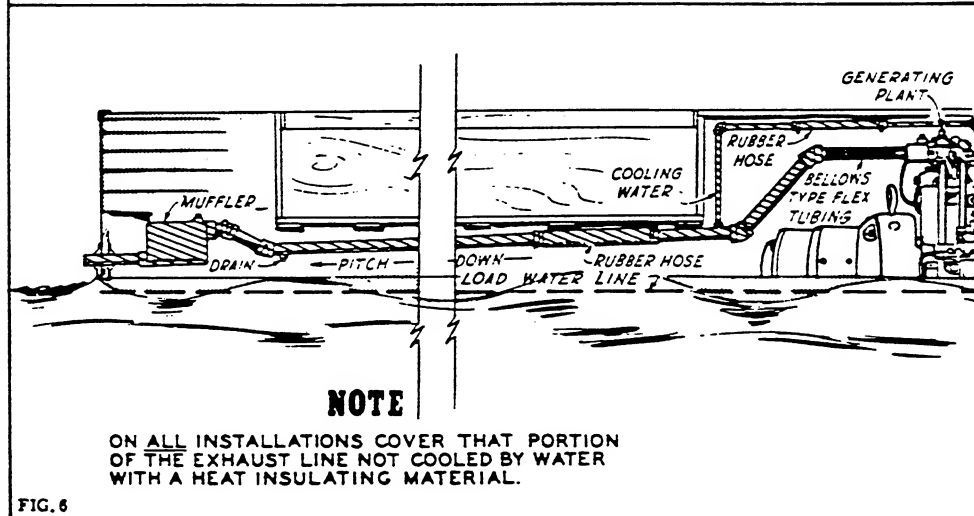

FIG. 6
4. The muffler can be installed in the stern due to space limitations. Here the water is put directly into the exhaust line immediately before the flexible hose and is then blown through the exhaust line. The low point in the exhaust line should have a drain plug for freezing protection. This installation forces the engine exhaust to raise the water the height of the rise in the exhaust line but if this rise does not exceed 1-1/2 feet, the back pressure will not be enough to perceptibly influence the engine. See Fig. 6.